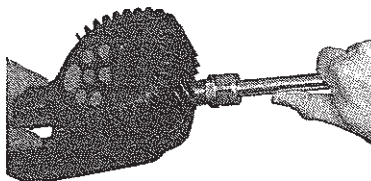

Figure 5: Thread nozzle onto meter
2. Thread the nozzle onto the meter. See *Figure 5*.